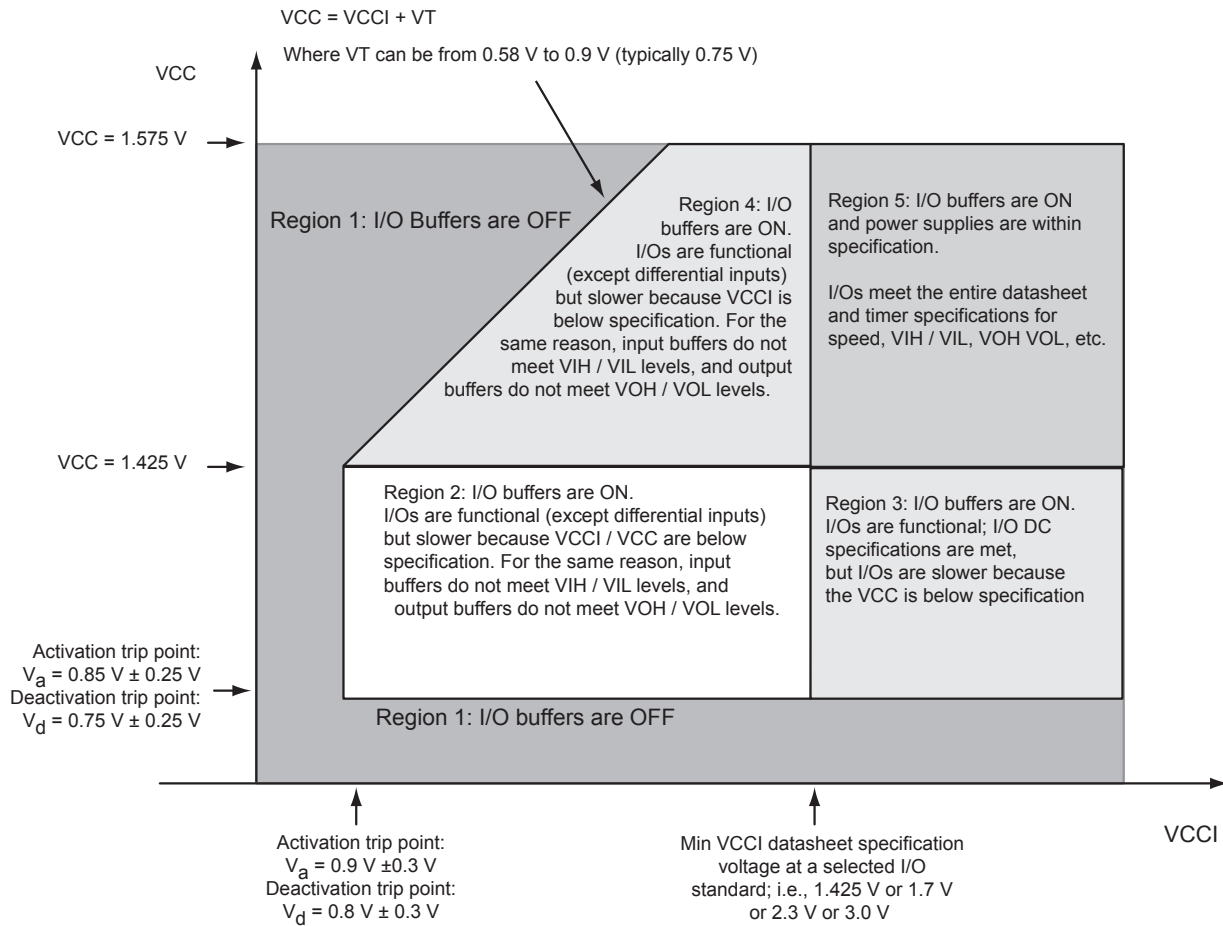

Figure 3-1 • I/O State as a Function of VCCI and VCC Voltage Levels
Sophisticated power-up management circuitry is designed into every Fusion device. These circuits ensure easy transition from the powered off state to the powered up state of the device. The many different supplies can power up in any sequence with minimized current spikes or surges. In addition, the I/O will be in a known state through the power-up sequence. The basic principle is shown in Figure 3-1 on page 3-6.
1. VCC and VCCI are above the minimum specified trip points (Figure 3-1).
Actel recommends using monotonic power supplies or voltage regulators to ensure proper power-up behavior. Power ramp-up should be monotonic at least until VCC and VCCPLX exceed brownout activation levels. The V_{CC} activation level is specified as 1.1 V worst-case (see Figure 3-1 on page 3-6 for more details).